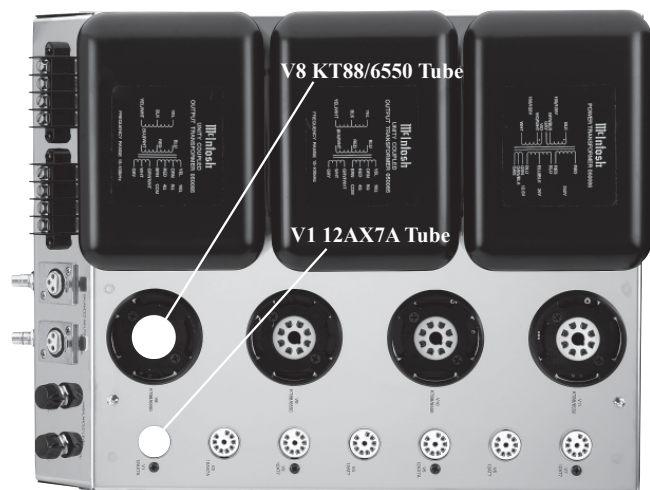

Figure 4
The MC275 Chassis has nomenclature screened on it to specify both the circuit location and Tube Type for each channel. Refer to figure 4.
2. On the top left side of the amplifier, locate the Tube Socket that has the nomenclature V1 12AX7A next to it on the chassis. Refer to figure 4 and 5.
so the wires cannot slip out. Refer to figures 4, 5 & 6.
Insert the spade lug connector or prepared section of the cable end under the terminal strip screw and tighten the screw until the cable is firmly clamped into the terminal strip so the wires cannot slip out. Refer to figures 4, 5 & 6.